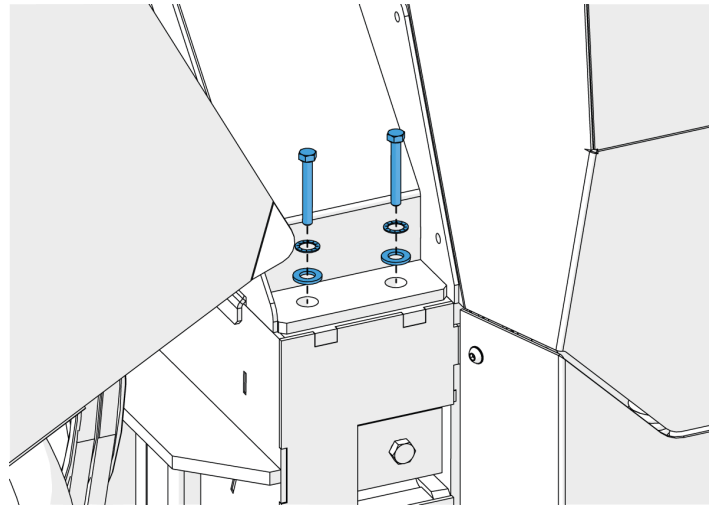

Figure 52 - Chipping chamber cover bolts
5. Remove the two bolts holding the chipping chamber cover closed (Figure 52).